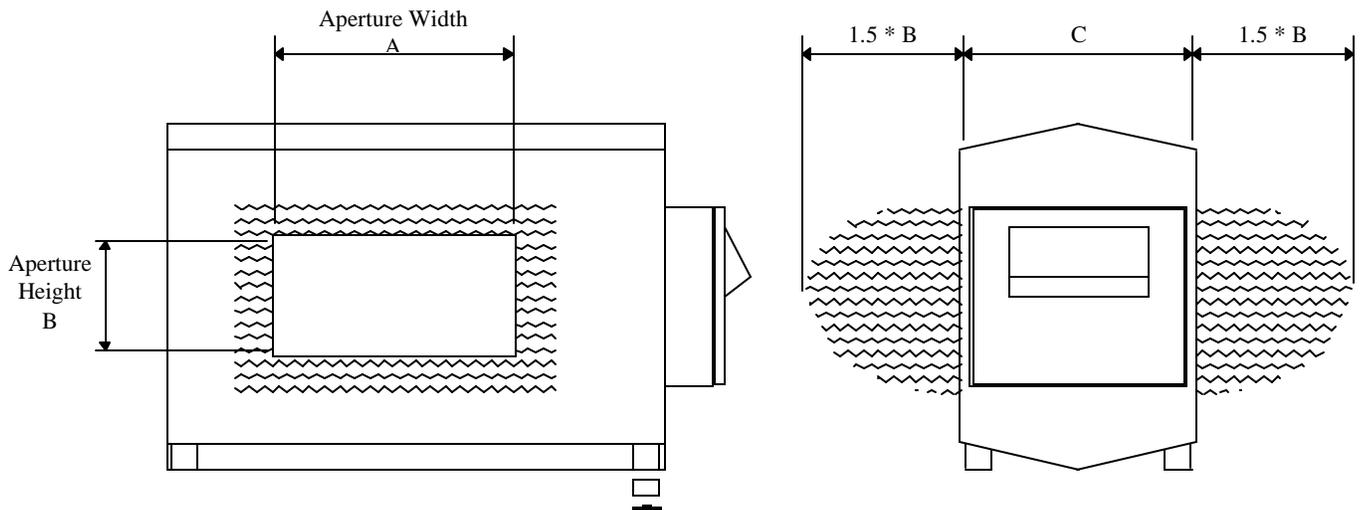

Figure 8
While the detector is shielded above, below and on the sides, metal objects have to be kept from the entrance and exit of the detector opening as shown below. No metal can be located in this area. Large moving metal should be kept fifty (50) percent further away or at least two (2) times the smaller aperture dimension. (see Figure 8). There are special models available for operation in areas which require smaller metal free areas. Contact Goring Kerr for more details.